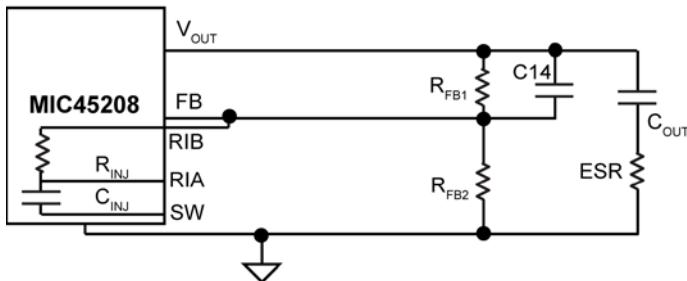

Figure 10. Internal Ripple Injection at FB via RIB Pin
2. There is virtually no or inadequate ripple at the FB pin voltage due to the very-low ESR of the output capacitors; such is the case with ceramic output capacitor. In this case, the  $V_{FB}$  ripple waveform needs to be generated by injecting suitable signal. MIC45208 has provisions to enable an internal series RC injection network,  $R_{INJ}$  and  $C_{INJ}$  as shown in Figure 10 by connecting RIB to FB pin. This network injects a square-wave current waveform into FB pin, which by means of integration across the capacitor (C14) generates an appropriate saw-tooth FB ripple waveform.